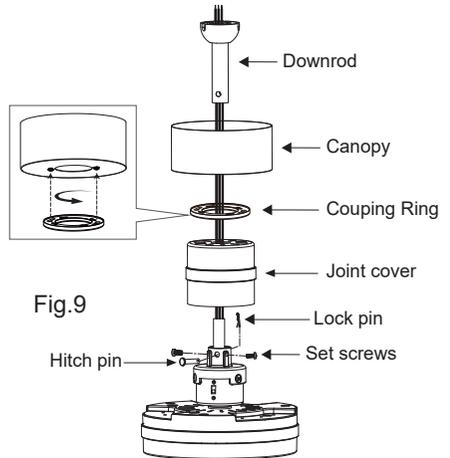

Fig.9
Step 6 Route wires exiting from the top of the fan motor through the canopy and then through the ball/down rod.(Fig.9)
Step 7 Align the holes at the bottom of the down rod with the holes in the collar on top of the motor housing.Carefully insert the hitch pin through the holes in the collar and down rod.Be careful not to jam the pin against the wiring inside the down rod.Insert the locking pin through the hole near the end of the hitch pin until it snaps into its locked position.(Fig.9)